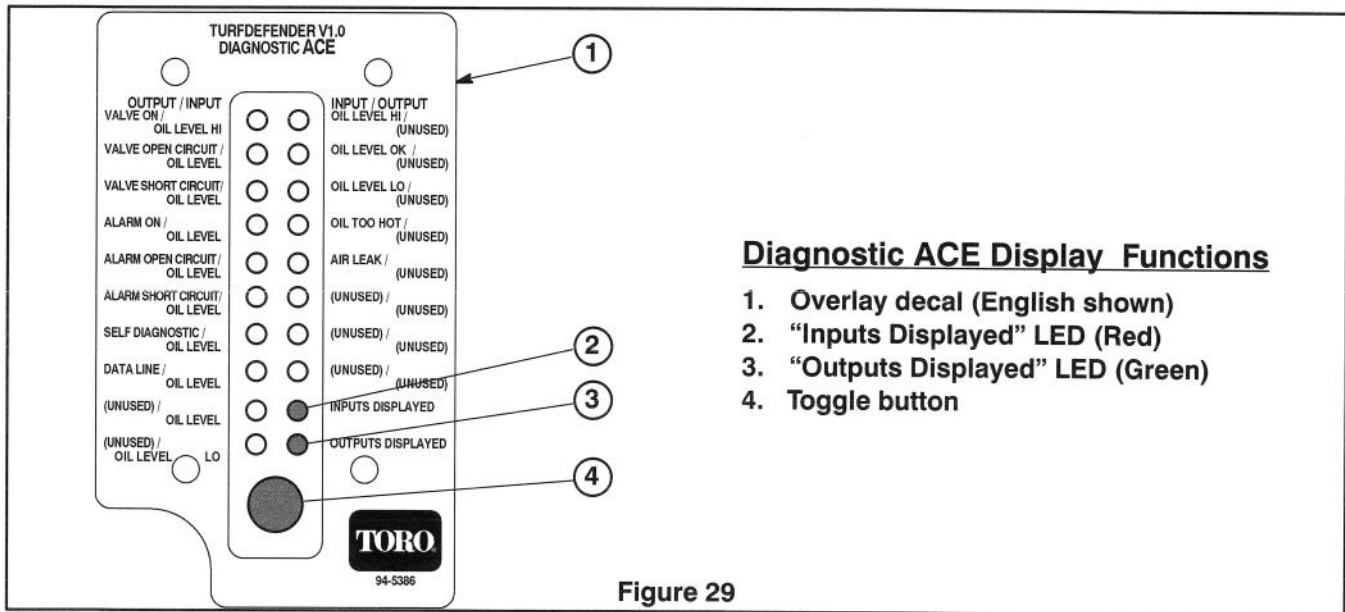

Figure 29
3. Connect the Diagnostic ACE display connector to the correct harness loopback connector. Install TurfDefender overlay decal (supplied with leak detector kit) onto Diagnostic ACE (Fig. 29).
5. The red "Inputs displayed" LED (Light Emitting Diode), on lower right column of the Diagnostic ACE, should be illuminated. If green "Outputs displayed" LED is illuminated, press and release the toggle button, on Diagnostic ACE, to change LED to "Inputs displayed". Do not hold button down (Fig. 29).